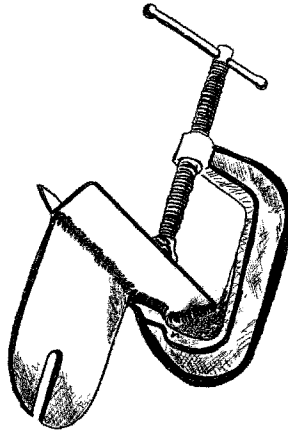

Figure 2.8 Branch holder.
1. The C-clamp branch holder has a 4-in. to 6-ft. iron plate welded at a 90-degree angle to one face of the C-clamp (Figure 2.8).